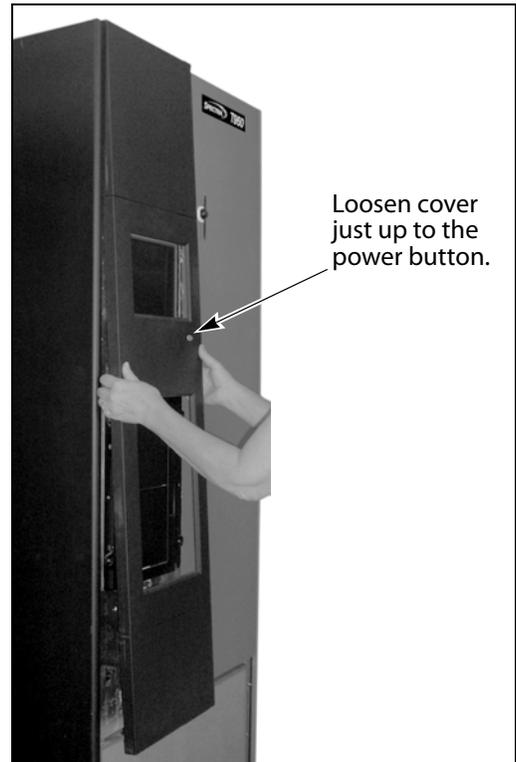

Figure 18 Loosen the cover just up to the level of the power button.
- b. Working up from the bottom, use both hands to pull firmly outward on the cosmetic cover to disengage the ball studs on the back of the cover from the panel behind it until you reach the level of the power button (Figure 18).